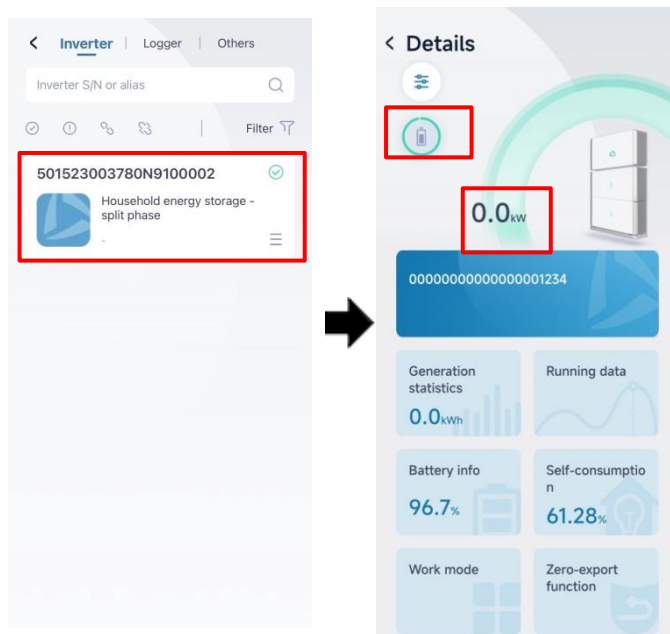

Figure4-12 Device detail
Step 2 Tap the corresponding S/N of device to view the inverter info, as shown in Figure4-12.